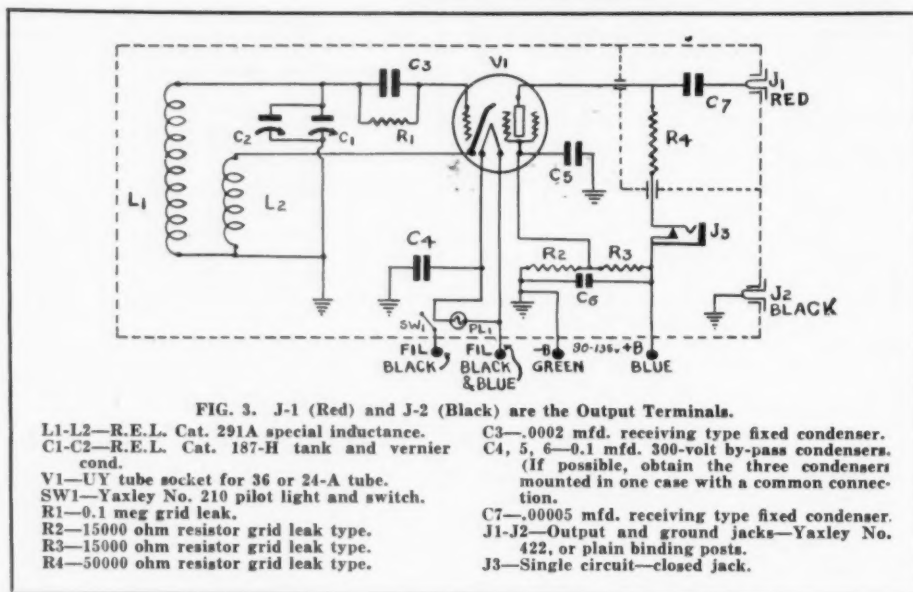

FIG. 3. J-1 (Red) and J-2 (Black) are the Output Terminals.
4. Voltage Stabilization; the use of resistors R2 and R3, in Fig. 3, provides voltage stabilization in that the proportion of screen to plate voltage is maintained when variations in the high voltage supply occur.